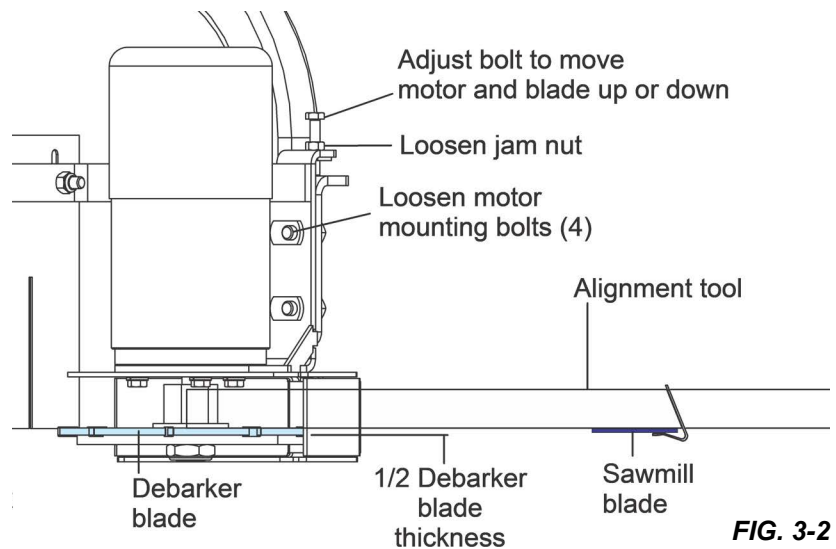

FIG. 3-2
8. Clip the blade guide alignment tool to the sawmill blade. **See Fig. 3-2.**